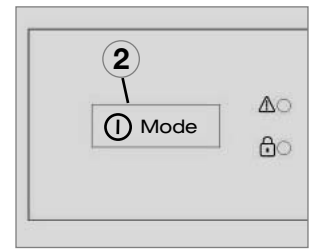

Fig. 40
- Press the "MODE" button to switch off MES and AES models. Keep button "2" pressed for 3 seconds. The display disappears and the appliance is fully switched off (Fig. 40).